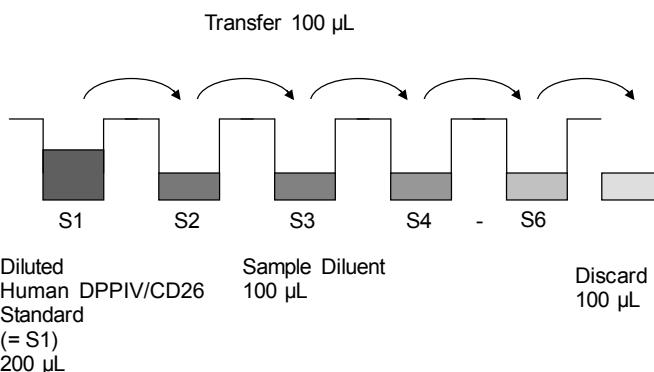

Fig. 7 Dilute standards - microwell plate
- Standard dilution on the microwell plate (Alternatively the standard dilution can be prepared in tubes - see "External standard dilution" on page 3): Add 100 µL of Sample Diluent in duplicate to standard wells B1/2 - F1/2, leaving A1/A2 empty. Pipette 200 µL of prepared standard (see "Human CD26 standard" on page 3, concentration = 500.0 ng/mL) in duplicate into well A1 and A2 (see Table 1). Transfer 100 µL to wells B1 and B2. Mix the contents of wells B1 and B2 by repeated aspiration and ejection, and transfer 100 µL to wells C1 and C2, respectively. (see Figure 7). Take care not to scratch the inner surface of the microwells. Continue this procedure 3 times, creating two rows of human DPPIV/CD26 standard dilutions ranging from 500.0 to 15.6 ng/mL. Discard 100 µL of the contents from the last microwells (F1, F2) used.